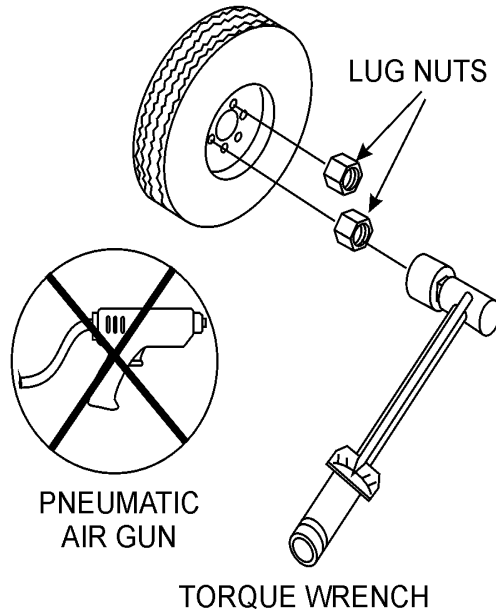

Figure 36. Wheel Lug Nuts Tightening Sequence
2. Torque all lug nuts in sequence. See Figure 36. **DO NOT** torque the wheel lug nuts all the way down. Tighten each lug nut in 3 separate passes as defined by Tables 6 and 9.